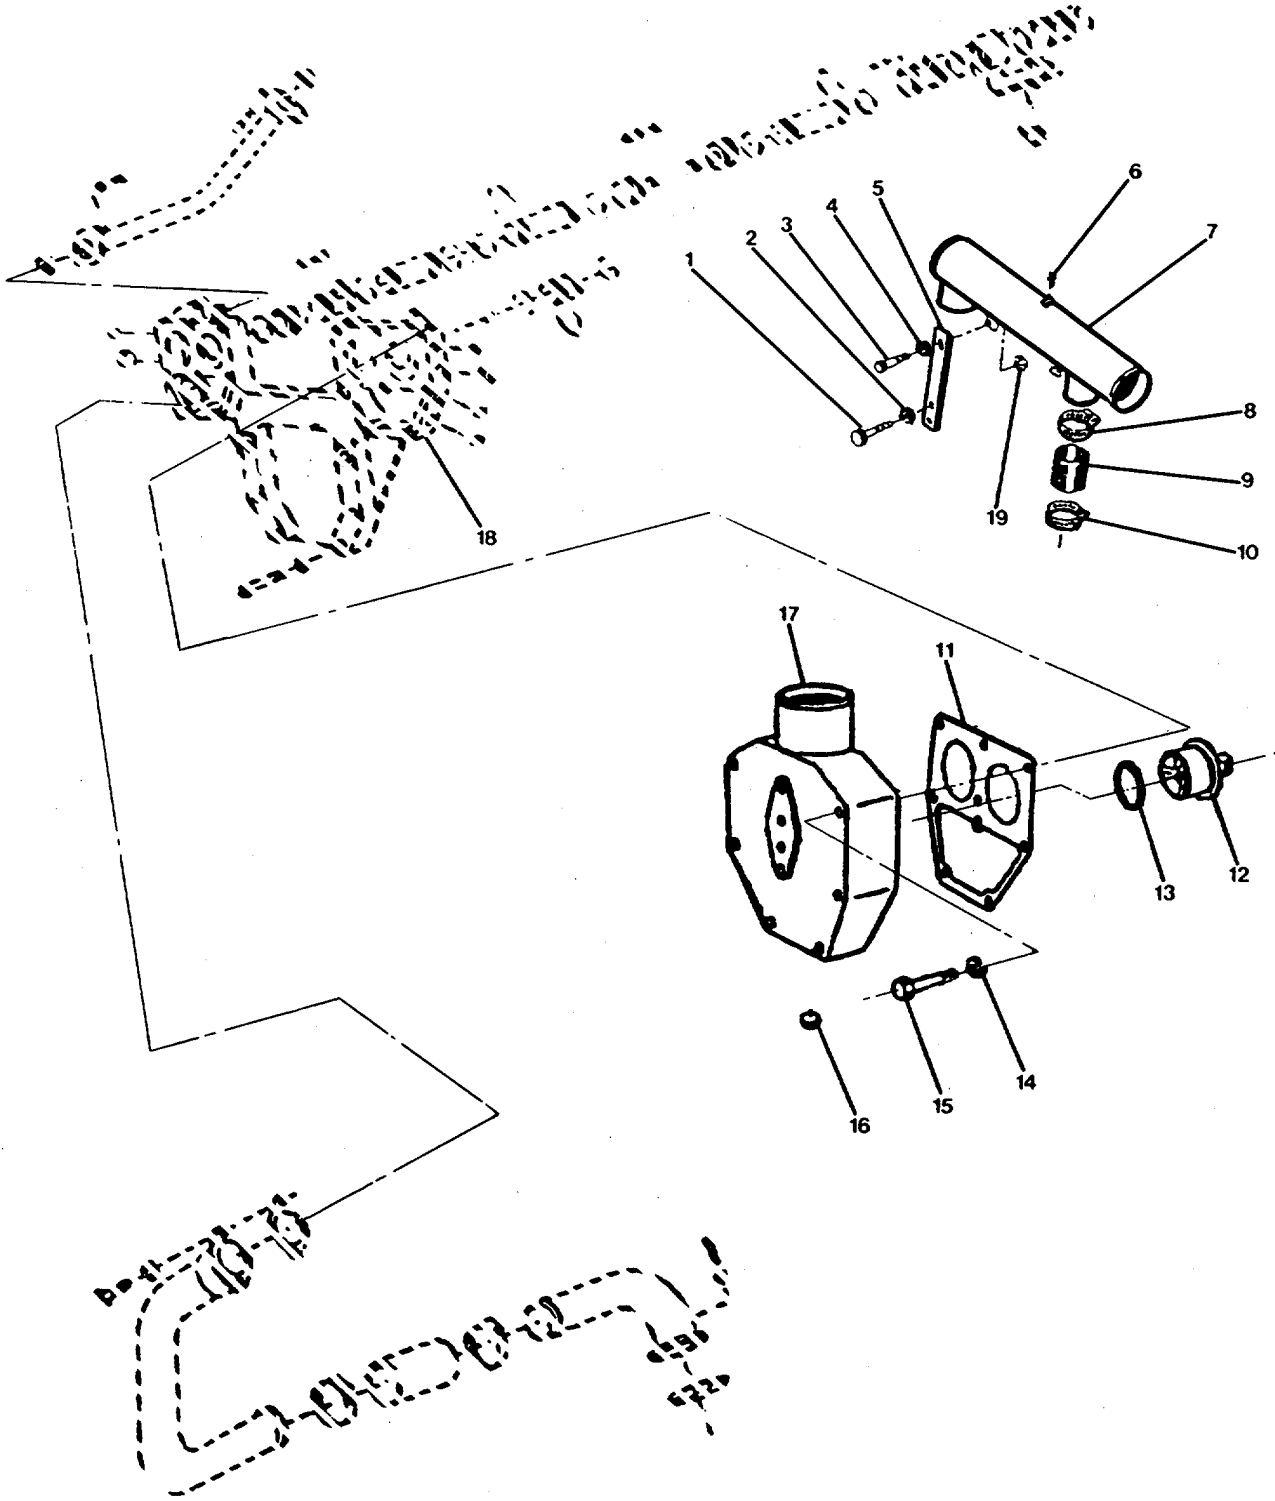

FIGURE 2-11. Thermostat Housing/Water Transfer Coupling
- b. Remove clamp (10, FIG. 2-11) retaining the coolant nonmetallic outlet hose (9) to thermostat housing (17). Remove clamp (8) to water transfer connection piping (7). Remove the outlet nonmetallic hose (9).
- (1) Remove six hexagon head capscrews (15, FIG. 2-11) and lockwashers (14) retaining thermostat housing (17) to housing support (18).
- (2) Remove thermostat housing (17) and thermostat housing gasket (11). Discard gasket.
- (3) Remove thermostat (12) and thermostat seal (13). Discard seal.
- (4) Remove pipe plug (16).
- (1) Remove pipe plug (6, FIG. 2-11).
- (2) Remove four hexagon head capscrews (1 and 3), lockwashers (2 and 4), and nuts (19).
- (3) Remove tube braces (5).
- (4) Remove the water transfer connection (7).
- (1) Position water transfer connection piping (7, FIG. 2-11).
- (2) Position tube braces (5). Secure with nuts (19), lockwashers (2 and 4), and hexagon head capscrews (1 and 3).
- (3) Install pipe plug (6).